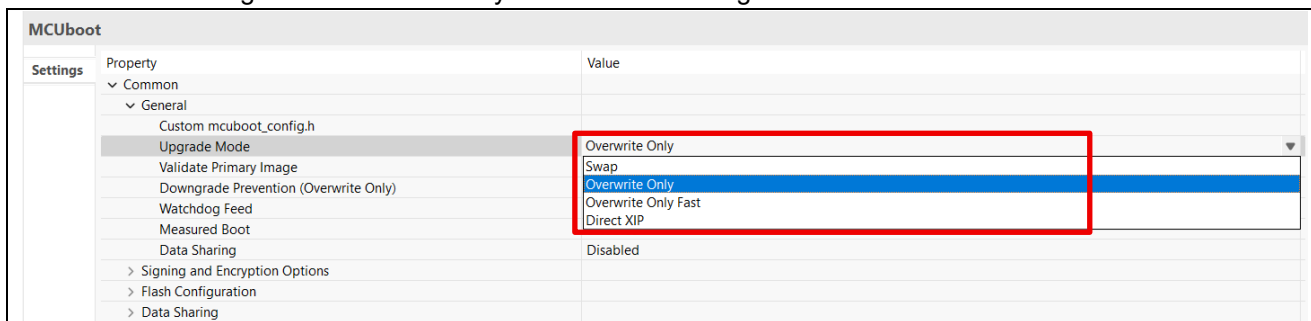

Figure 3. Application Image Update Mode
- **Upgrade Mode:** This property configures the application image update method selection explained at the beginning of section 2.1. The options are Overwrite Only, Overwrite Only Fast, Swap, and Direct XIP, as shown in Figure 3. Overwrite Only is the default setting.